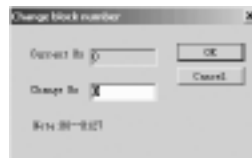

Fig. 4.11 Dialog Box of Modify Tab
1. Click “Start” in “Simulation” under the menu “Controller” with left button of the mouse. As shown in Fig. 4.11: It’s time to start program of simulation, or click “” in the toolbar with mouse, and it also can open simulation operation interface. It shows as Fig. 4.12.